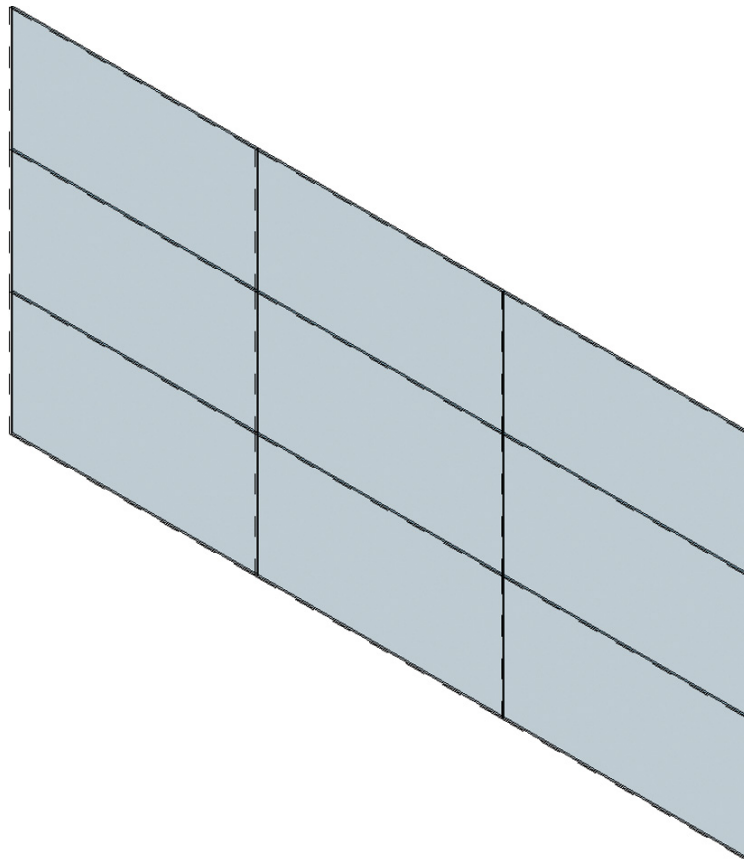

FIGURE 2.21 Completed curtain grids
3. Place two evenly spaced curtain grids along the horizontal and vertical edges. When you’re finished, the curtain panel looks like Figure 2.21.